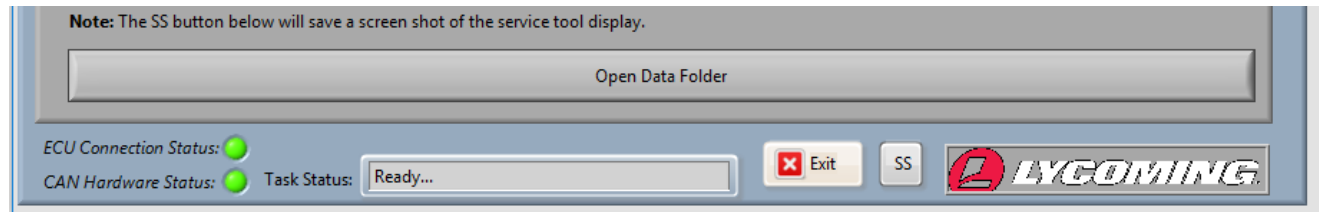

Figure C-40
1. Close the FST program by clicking on the **Exit** button at the bottom of the screen (Figure C-40).